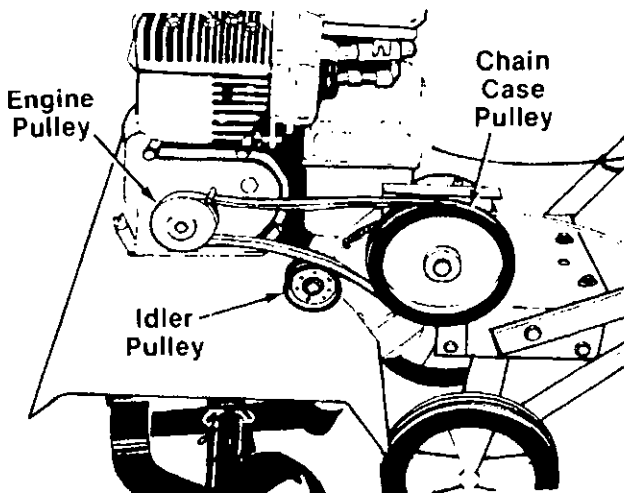

FIGURE 27.
4. To reassemble the new belt, first place belt over engine pulley. Be sure belt is inside two pins at engine pulley. See figure 27.
5. Belt must be over top of idler pulley. See figure 27. Slip end of belt over the chain case pulley.